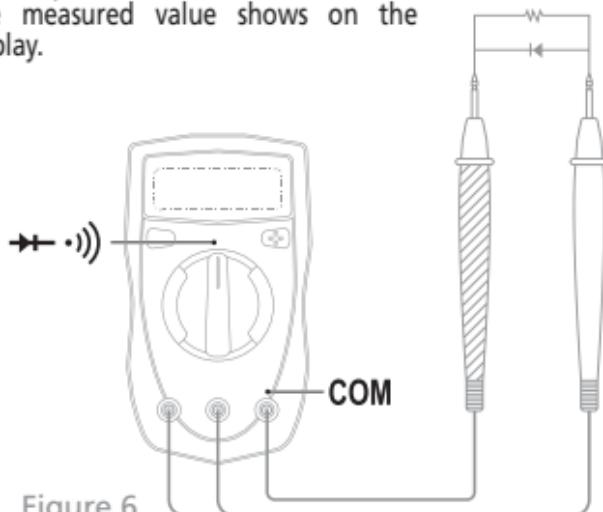

Figure 6
- The test leads can add 0.1 Ω to 0.3 Ω of error to resistance measurement. To obtain precision readings in low-resistance measurement, that is the range of 200 Ω, short-circuit the input terminals beforehand and record the reading obtained (called this reading as X). (X) is the additional resistance from the test lead. Then use the equation: measured resistance value (Y) - (X) = precision readings of resistance.
F. Diode and Continuity Test (Figure 6)